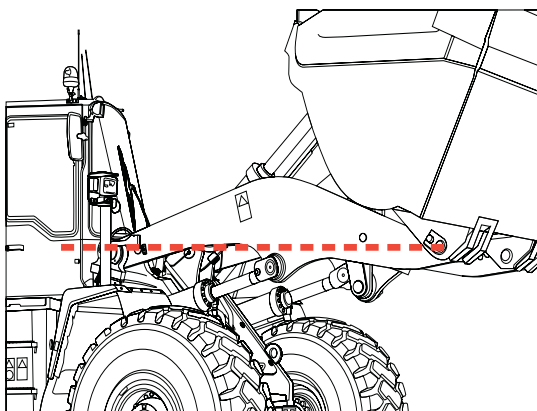

Fig. 1
- 1 Position the arm as on fig.1; the bucket pin should be just above the lift arm pin. In this position the **helper 7** should start weighing: **LIFT** appears on the screen.